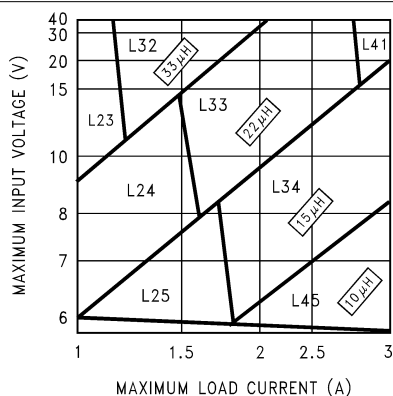

图 8-2. LM2676-3.3
Step 3: Determine the inductor required by using one of the four nomographs (图 8-2 through 图 8-5). 表 8-3 provides a specific manufacturer and part number for the inductor.
Step 5: Determine an input capacitor from 表 8-7 or 表 8-8 for fixed output voltage applications. Use 表 8-1 or 表 8-2 to find the specific capacitor type. For adjustable output circuits, select a capacitor from 表 8-1 or 表 8-2 with a sufficient working voltage (WV) rating greater than V_{IN} max, and an RMS current rating greater than one-half the maximum load current (two or more capacitors in parallel can be required).
Step 3: Use the nomograph for the 3.3-V device (图 8-2). The intersection of the 16-V horizontal line (V_{IN} max) and the 2.5-A vertical line (I_{LOAD} max) indicates that L33, a 22- μH inductor, is required.